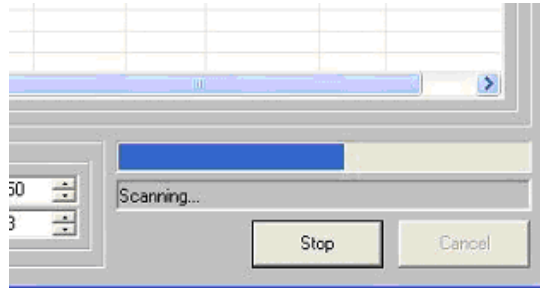

Figure 43: Scanning process
2. The message “*Scanning...*” appears below the progress bar (See Figure 43).